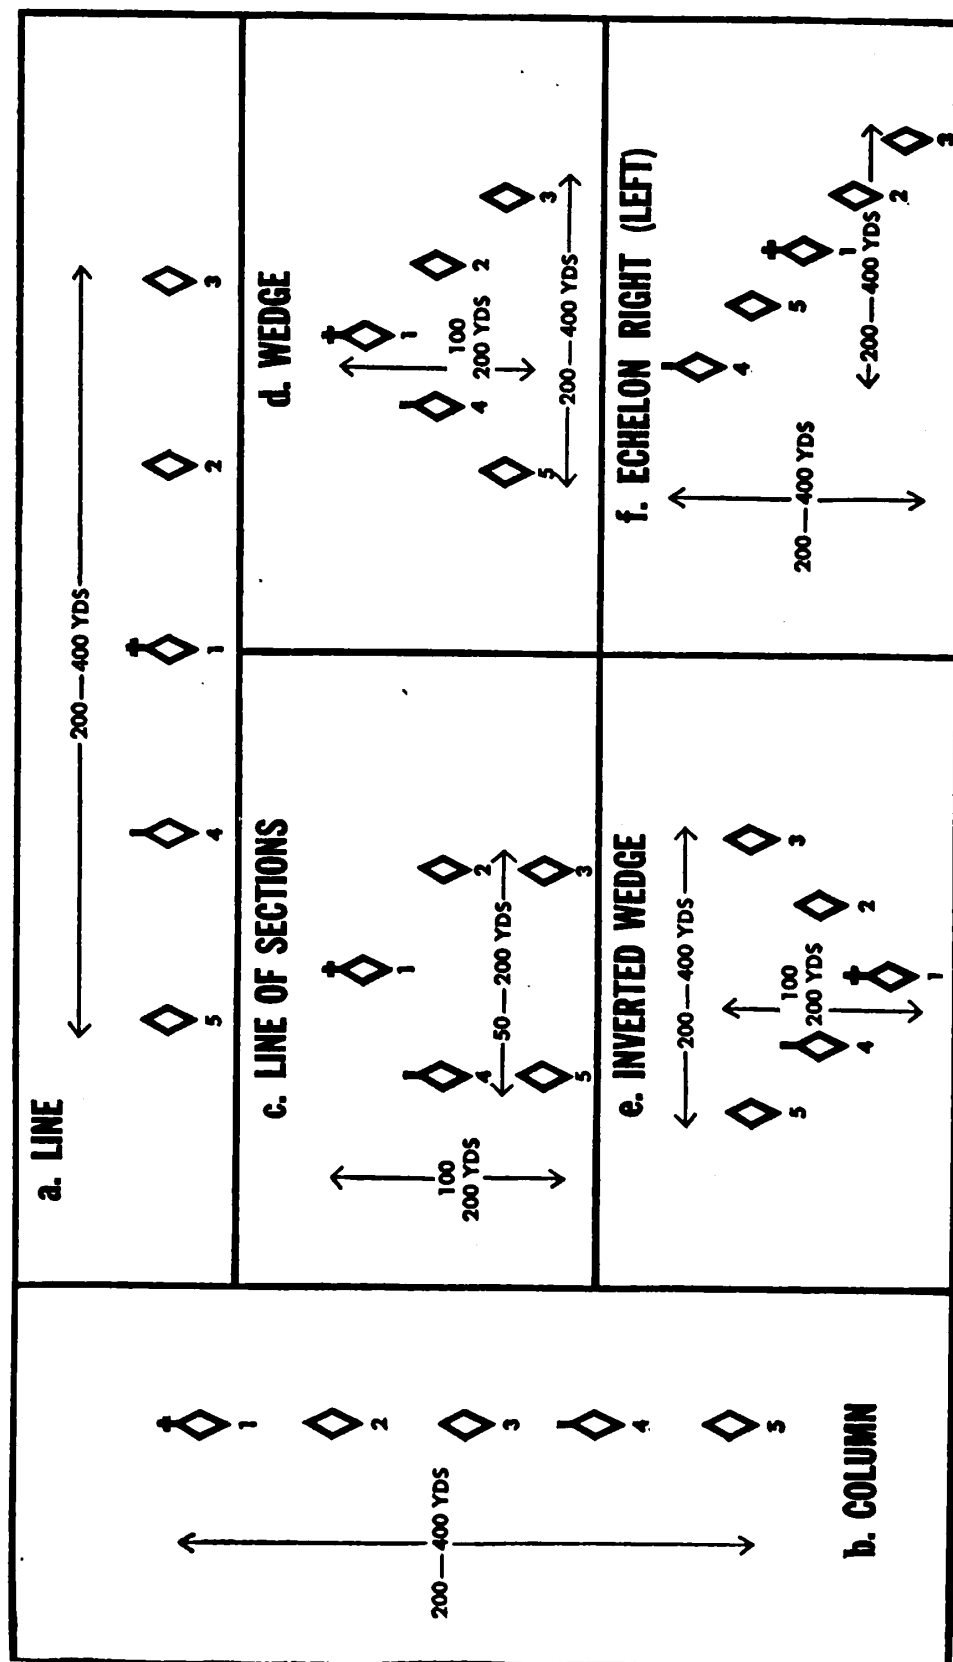

Figure 1. Basic platoon formations.
c. Formations. Formations (fig. 1) are used to facilitate the movement of a section, platoon, or larger element from one place to another—on the road, in field problems, or in combat. The section or platoon leader selects the type of formation which will best enable the unit to accomplish its mission. The choice is dependent on the need for control, security, and fire power; and on the terrain and information of the enemy, real or simulated. Maximum benefits can be gained from each